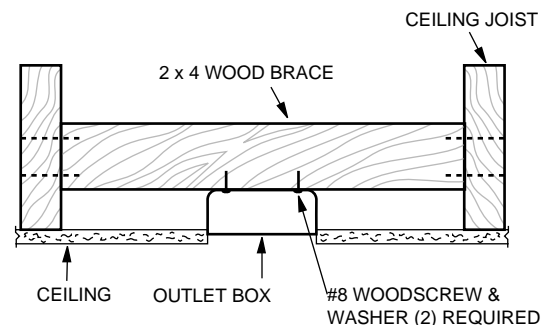

FIGURE 2
- A. Secure metallic outlet box 4" x 1-1/2" or 4" x 1/2" deep to 2 x 4 cross brace between two ceiling joists as shown in Figure 2. The outlet box must be recessed into the ceiling by 1/16" minimum. Secure the outlet box to the cross brace by drilling (2) pilot holes no larger than the minor diameter of the wood screws (5/64") and use two #8 x 1-1/2" wood screws and washers. Use the innermost holes for securing the box. Orient the box so the outermost holes are aligned with the 2 x 4 brace.